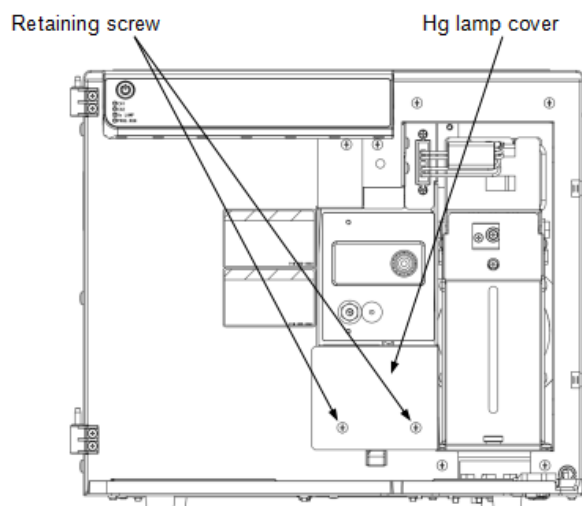

Fig. 8-12 Removing the mercury lamp cover
- ③ Loosen the screws securing the mercury lamp cover (Figure 8-12).